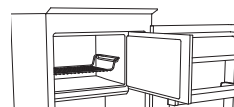
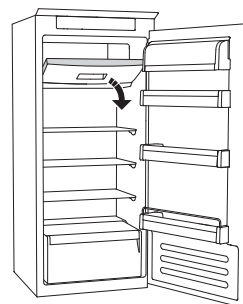

Figure 1
Figure 2
- arrange the food on the grille, if present (figure 1), or directly on the bottom of the compartment (figure 2)
- put the food in the middle of the **✱***** compartment without it coming into contact with food that is already frozen, keeping a distance of about 20 mm (figure 1 and 2).
The STOP FROST SYSTEM (available depending on the model) facilitates the defrost procedure for the freezer compartment. The STOP FROST accessory (figure 1) is designed to collect some of the frost that forms in the freezer compartment and it is easy to remove and clean, therefore reducing the time needed to defrost the inside of the freezer compartment.
- Open the freezer compartment door and remove the upper drawer (figure 2).